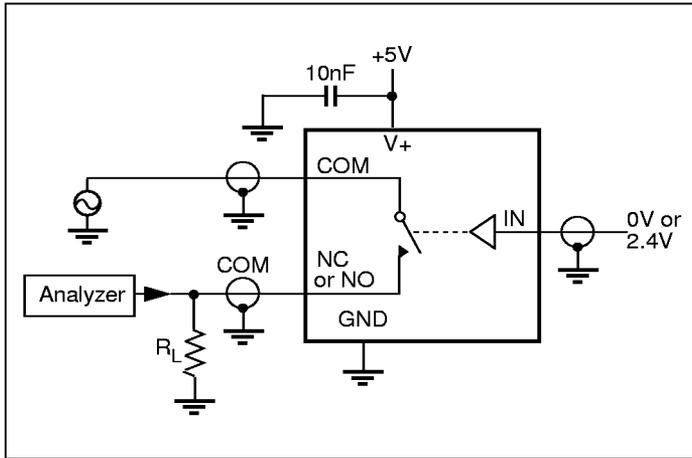

Figure 5. Off Isolation
7. Off Isolation = $20 \log_{10} [V_{COM} / (V_{NC} \text{ or } V_{NO})]$. See figure 5.